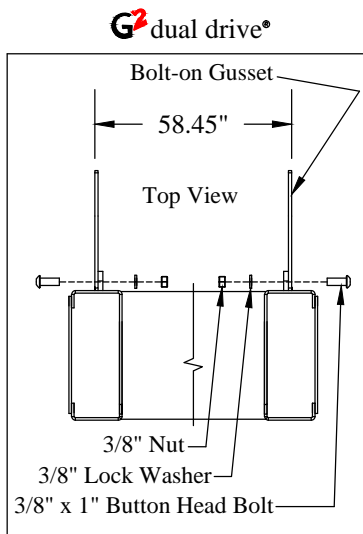

Figure 3: Top view of liftgate bolt-on gussets.
1. Install the eight (8) 3/8" x 1" button head bolts, lock washers, and nuts in the position shown for your configuration (Figure 3).
Note: If gussets are already welded to the uprights, verify gusset spacing and dimensions before proceeding (Figure 3).